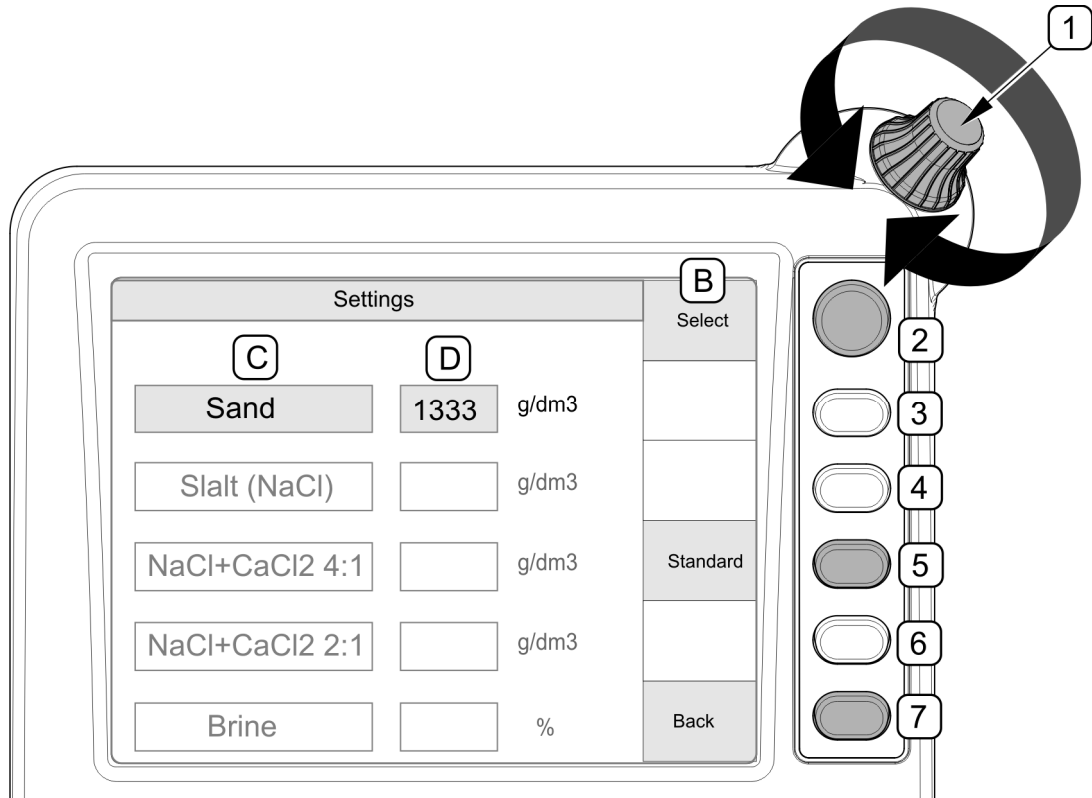

FIG. 4.18 Example of control panel operation
Depending on a display menu page selected, (FIG. 4.18) currently assigned functions (B) are displayed next to function push-buttons (2),(3),(4),(5),(6),(7). On each display menu page, different functions are displayed for a given push-button. Empty function field next to push-buttons (3),(4),(6) means that the push-buttons are not active at the moment (FIG. 4.18). Knob (1) is used for moving to another field (C) and for changing values of parameters in field (D).